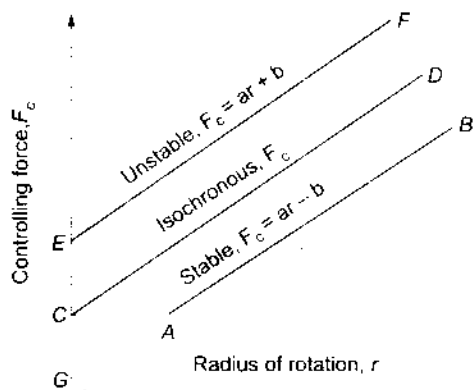

Fig.8.15 Controlling force for a spring loaded governor
The controlling force diagram for spring-controlled governors is a straight line, as shown in Fig.8.15.
1. For a stable governor, the controlling force must increase as the radius of rotation increases, that is, F_c/r must increase as r increases. Therefore, the controlling force line AB when produced must intersect the controlling force axis below the origin at G , as shown in Fig.8.15. The equation of line AB is given by,